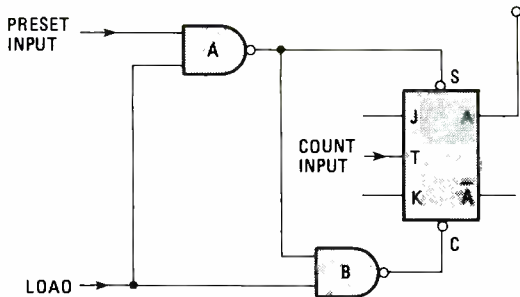

Fig. 4—Flip-flop pre-set circuitry.
On the other hand, there are other applications where it is desirable to begin counting at some predetermined number. For those applications we must have a way to preset the counter. It is done with preset circuitry that takes advantage of the asynchronous set (S) and clear (C) inputs of the JK flip-flops. A typical circuit for one flip-flop is shown in Fig. 4. If you would like to preset the flip-flop to binary 1, you apply a binary 1 input to the preset input at gate A. Then you apply a binary 1 to the LOAD input. That forces the output of gate A low and the output of gate B high. The result is that the asynchronous set input of the flip-flop causes it to store a binary 1. Applying a binary 0 to the preset input and then switching LOAD from low to high will cause the flip-flop to be reset or store a binary 0.